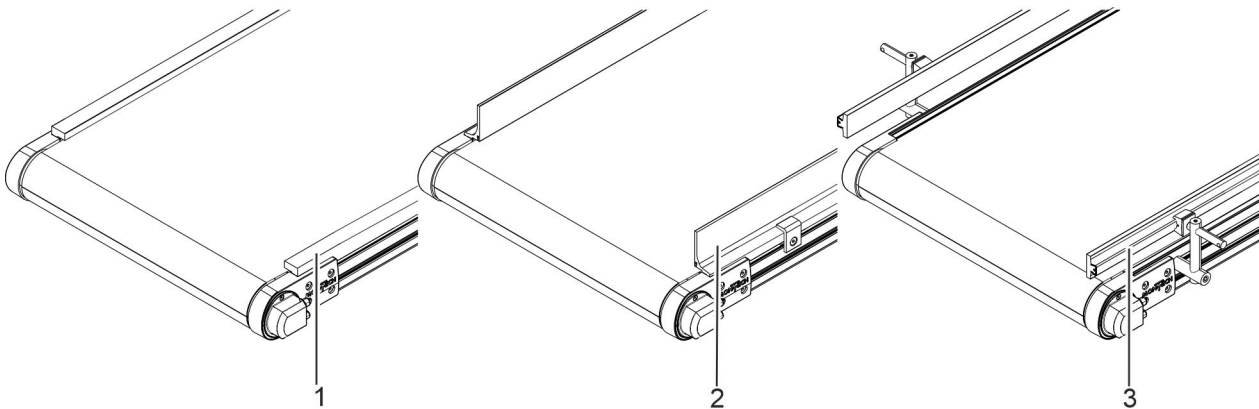

Fig. 10: Lateral guides
- Fixed lateral guide (Fig. 10/1)
- Aluminum lateral guide with or without strip brush (Fig. 10/2)
- Adjustable lateral guide type C: antistatic or non-antistatic (Fig. 10/3)